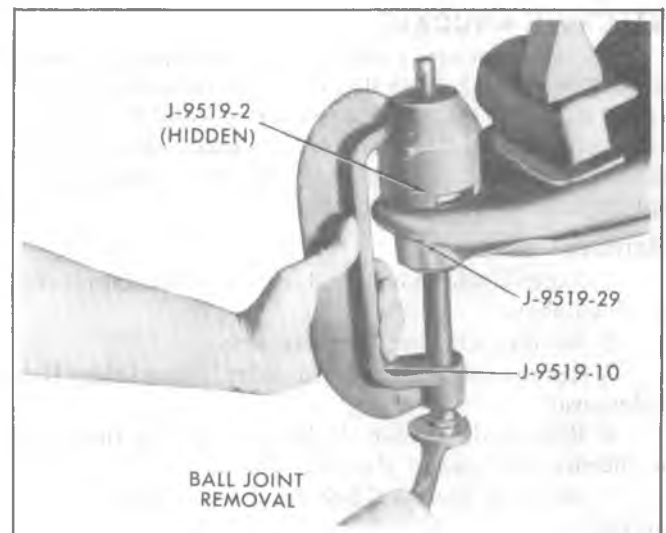

Fig. 3C-30—Ball Joint Removal
7. Install Tools J-9519-10 and J-9519-2 and J-9519-29 as shown in Fig. 3C-30.
Installation (Fig. 3C-31)